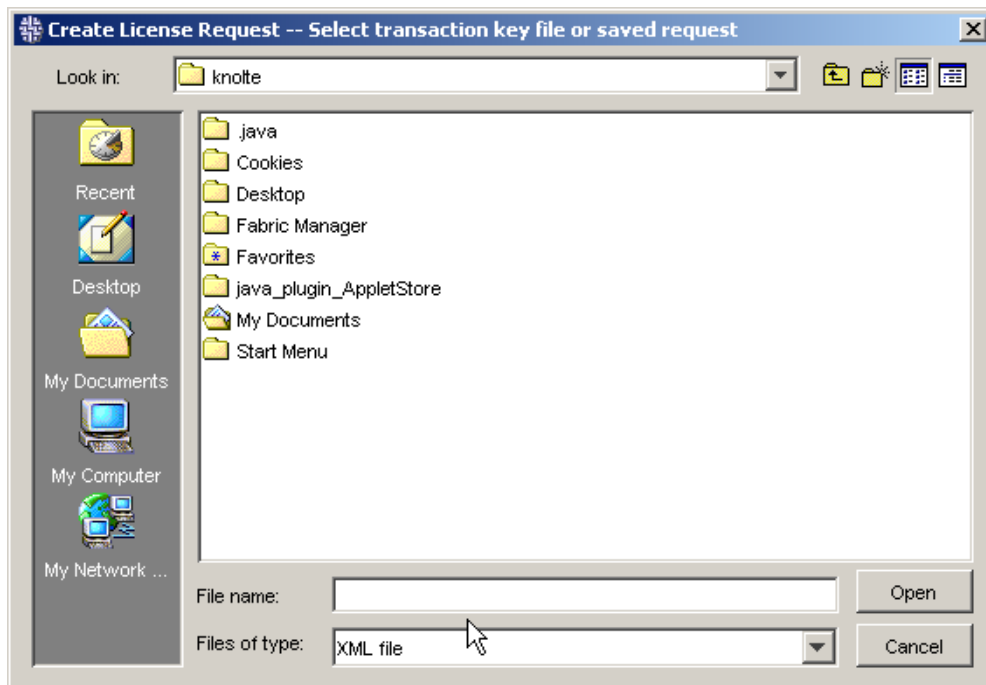

Figure 103 Select transaction key file dialog box
The Create License Request -- Select transaction key file or saved request dialog box opens (see Figure 103).
5. Open the transaction key files (not displayed in Figure 103).